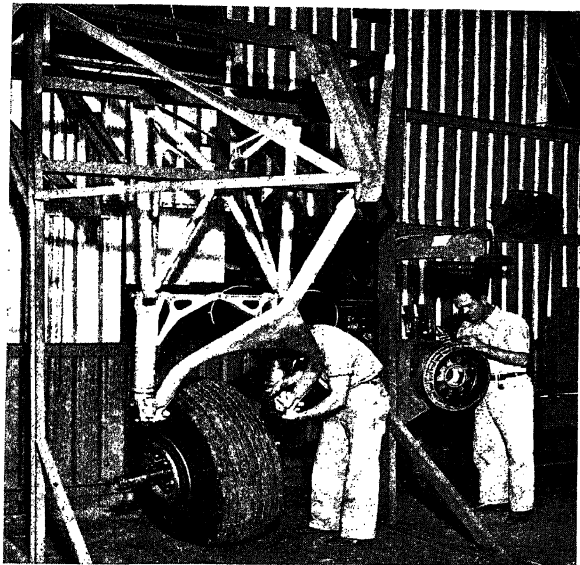

FIG. 3.—Jig used in assembling complete landing gear.
**Landing Gears.**—In Fig. 3 is a fixture, welded up from steel angles, in which complete landing gears can be assembled. This also gives a good idea of the diameter of the balloon tires used and of the size of the parts in the landing gear as a whole.